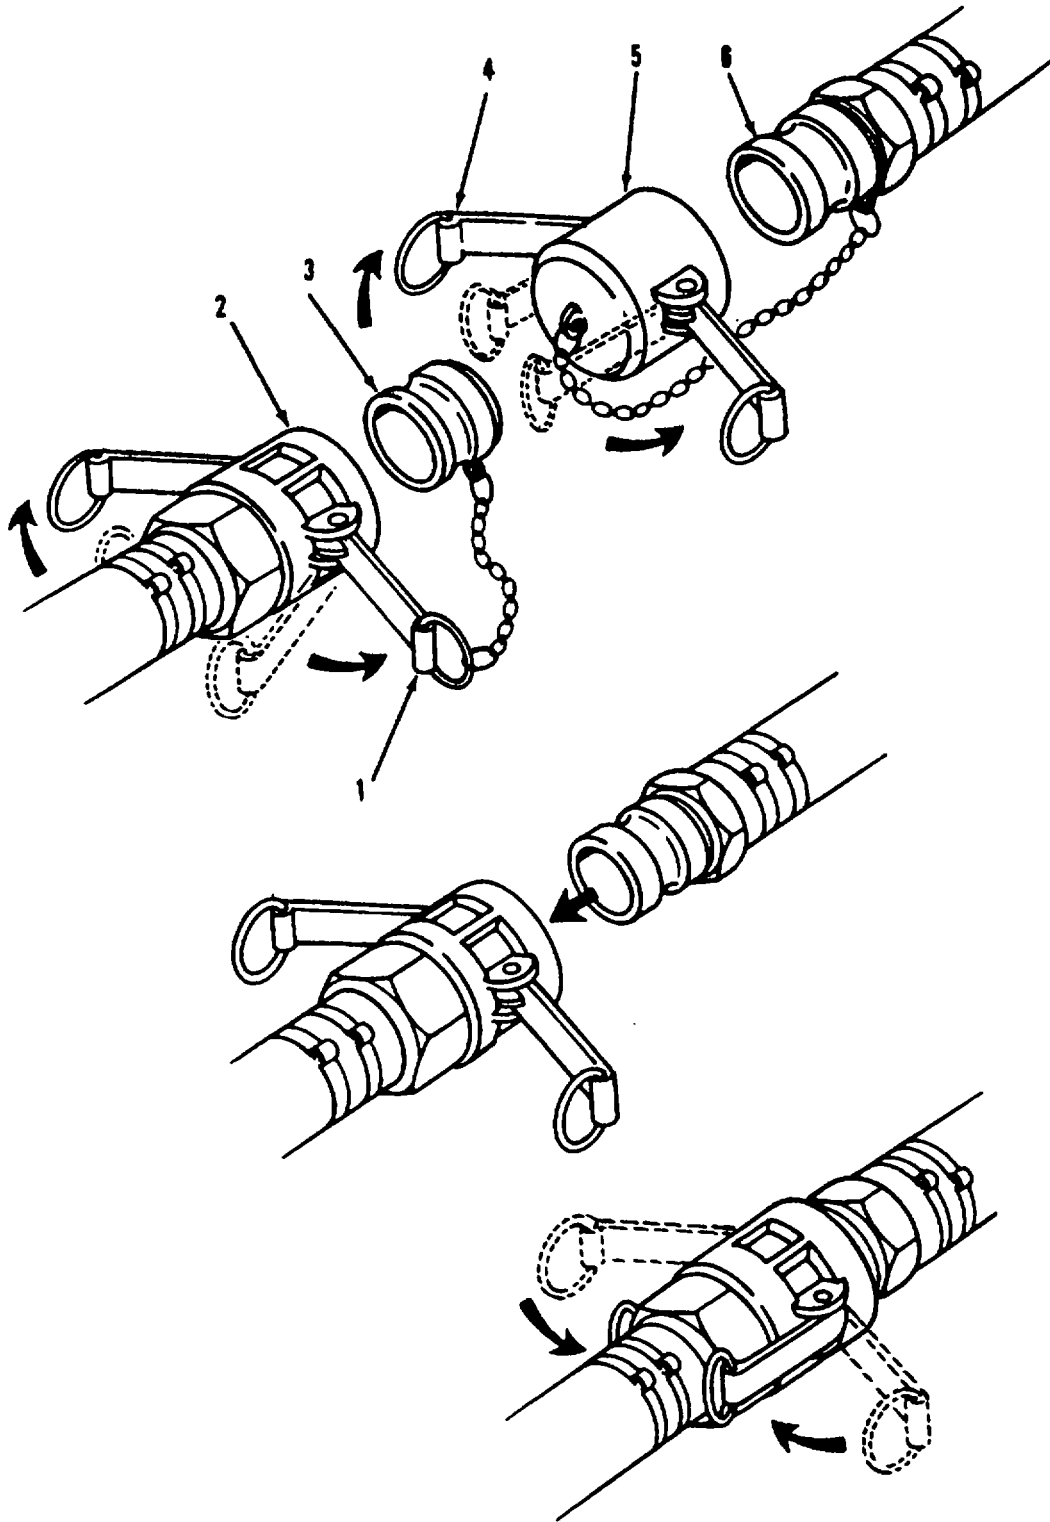

Figure 2-4. Quick Disconnect Couplings
- (1) Open triple container. Refer to the applicable TM.
- (2) Unpack contents of container. To aid assembly, separate components into groups of similar parts during removal. For example, group all the 4-inch discharge hoses together, then all the 2-inch gate valves, 2-inch discharge hoses and so on until all components are unpacked.
- (3) Unpack hypochlorination unit. Refer to the applicable TM.
- (4) Unpack 125 GPM pump. Refer to the applicable TM.
c. Quick Disconnect Couplings. (Refer to Figure 2-4).